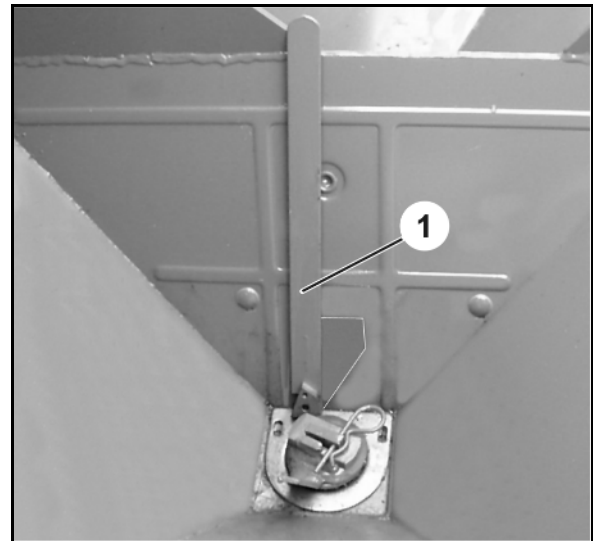

Fig. 104
4. After the thumb nut is unscrewed (Fig. 104/1), the setting lever (Fig. 104/2) must come to rest against the stop (Fig. 104/3).
- In this position, the read-off edge (Fig. 104/4) must display the value of "11" on the scale for the slider position.
**If this is not the case, modify the position of the stop (Fig. 104/3) by twisting the connecting rods (Fig. 104/5) accordingly:**
6. Unscrew the lock nuts (Fig. 104/6) of the connecting rods (Fig. 104/5).
7. Twist the connecting rod until the stop (Fig. 104/3) rests against the setting lever (Fig. 104/2).